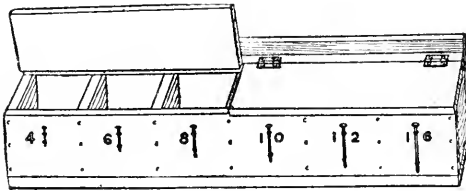

FIG. 47.
ing, and several receptacles for these are shown in Figs. 47 to 52. The
49) 6 inches wide by 6 inches high at the back and 5 inches high at the front. Nail together the front, back, and end pieces, then nail on the bottom and fasten the partitions in place so as to divide the box into six equal spaces. The box may either be screwed to the wall or hung upon hooks. If you screw it, do this before putting on the cover. Cut the hinge-strip (*E*, Fig. 49) 1 inch wide by the length of the box and nail it in place to the partition tops. The cover may be made in one piece, or in two as in Fig. 47; hinge it to the hinge-strip. Mark the sizes of the nails upon the front of the box, and fasten nails of corresponding sizes in front of the receptacles with small staples or bent-over brads to help you to associate the lengths with the size numbers. This box has been planned for *common nails* and to hold sizes ranging from $1\frac{1}{2}$ inches to $3\frac{1}{2}$ inches long (4-penny to 16-penny).